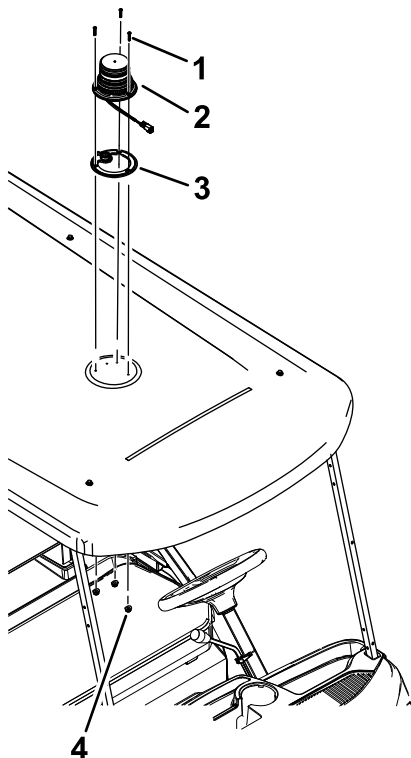

Figure 2
3. Place the gasket on top of the canopy (Figure 2).
4. Route the beacon light connector through the 22 mm (7/8 inch) hole and secure the beacon light to the canopy with 3 screws (#10 x 1 inch) and 3 locknuts (#10); refer to Figure 2.